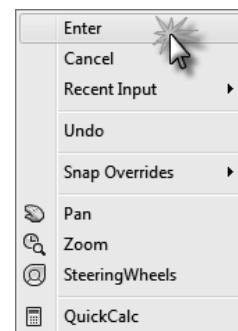

FIGURE 2-1.5 Right-click Menu; Line command active
8. After clicking your second point (i.e., the endpoint), **right-click** anywhere on the screen and select **Enter** from the pop-up menu (Figure 2-1.5).